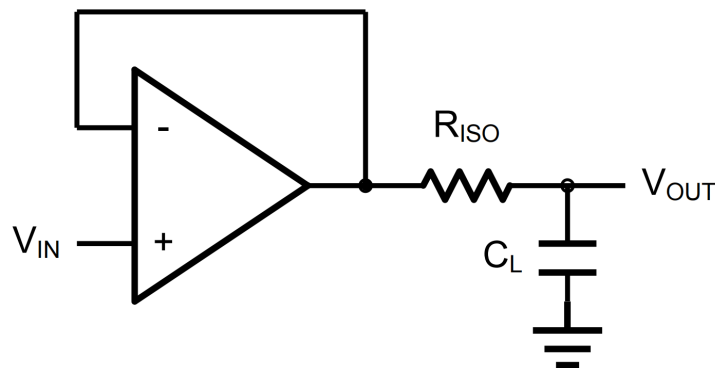
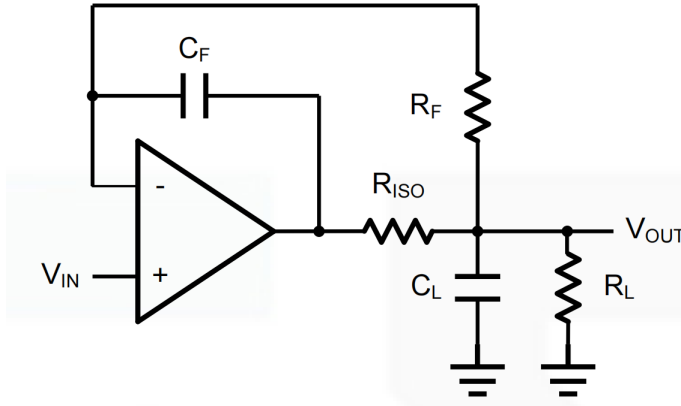

Figure 2. Indirectly Driving a Capacitive Load Using Isolation Resistor
Figure 3. Indirectly Driving a Capacitive Load with DC Accuracy
The MCOA321H/MCOA358H/MCOA324H family is optimized for bandwidth and speed, not for driving capacitive loads. Output capacitance will create a pole in the amplifier's feedback path, leading to excessive peaking and potential oscillation. If dealing with load capacitance is a requirement of the application, the two strategies to consider are (1) using a small resistor in series with the amplifier's output and the load capacitance and (2) reducing the bandwidth of the amplifier's feedback loop by increasing the overall noise gain. Figure 2. shows a unity gain follower using the series resistor strategy. The resistor isolates the output from the capacitance and, more importantly, creates a zero in the feedback path that compensates for the pole created by the output capacitance.
The circuit in Figure 3 is an improvement to the one in Figure 2. R_F provides the DC accuracy by feed-forward the V_{IN} to R_L . C_F and R_{ISO} serve to counteract the loss of phase margin by feeding the high frequency component of the output signal back to the amplifier's inverting input, thereby preserving the phase margin in the overall feedback loop. Capacitive drive can be increased by increasing the value of C_F . This in turn will slow down the pulse response